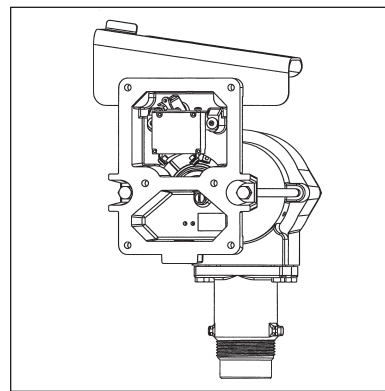

Figure 1
1. Remove six socket head screws that attach the electrical coverplate (Figure 1). Use a 3/16 in. hex wrench.